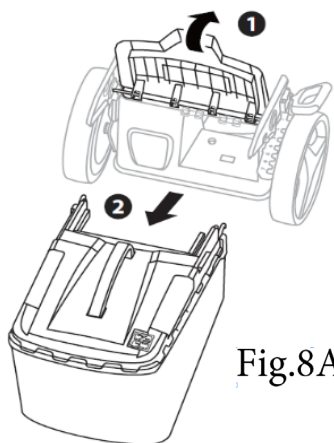

Fig.8A
- 1) Raise the rear cover and remove the grass catcher. (Fig.8A)